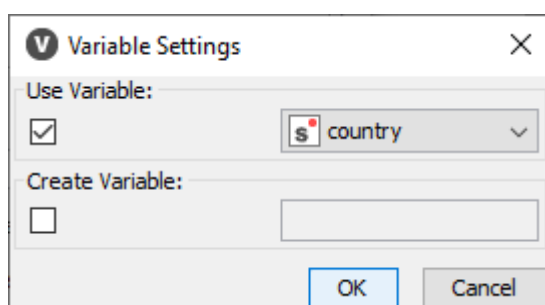

Figure 10. Define a specific node configuration by a flow variable
- a. If the chosen configuration setting has a flow variable icon next to it, click it and in the *Variable Settings* dialog that opens select *Use Variable*. Then select the flow variable from the drop-down menu, as shown in Figure 10.